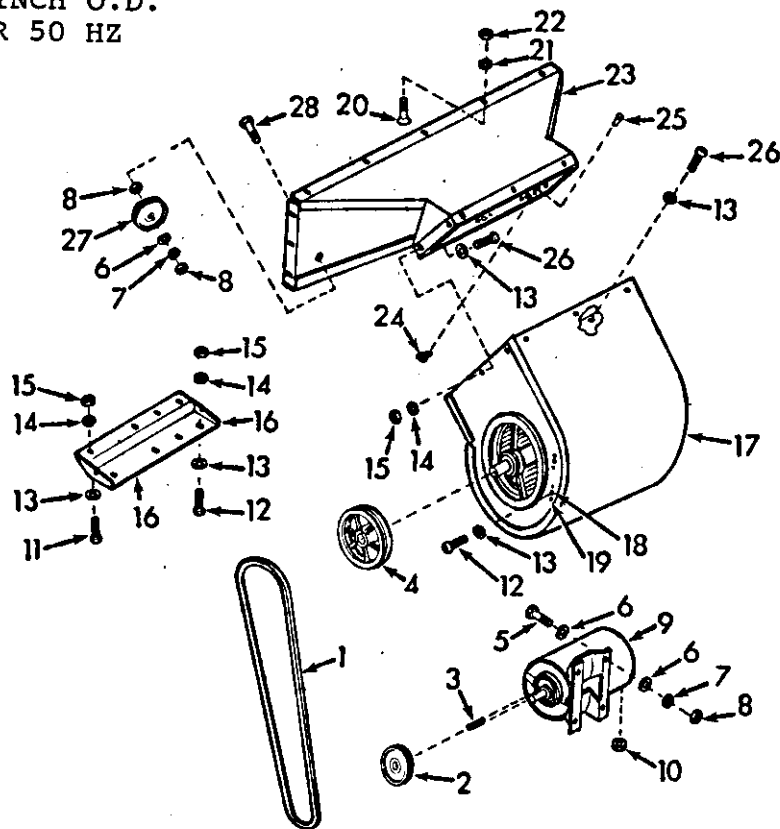

Figure 5-27. Conditioned Air Fan,
Legend for figure 5-27
(2) Use a multimeter set on 20 OHMS scale to check continuity between all three motor leads. If there is no continuity between any pair of leads, the motor winding is open. Replace motor.
(3) Use a multimeter set on 20 OHMS scale to check for continuity between each lead and the motor housing. If there is continuity between any lead and motor housing, the motor winding is shorted. Replace the motor.
(4) Use a multimeter set on 1 MEG OHMS scale to test stator insulation by checking between each lead and motor housing. A reading of less than 500,000 ohms indicates insulation failure. Replace motor.
d. Removal (See figure 5-27.)
(1) Loosen motor mounting hardware and remove belt.
(2) Loosen setscrews and pull pulleys from motor and fan.
(4) Fan removal:
c. Installation (See figure 5-27.) Requires two people.
- (1) Slip fan thru side of unit and into position under the outlet duct.
- (2) Rotate fan up and into position on the outlet duct.
- (3) Secure the fan with the following hardware: (Do not tighten hardware until all hardware is in place.)